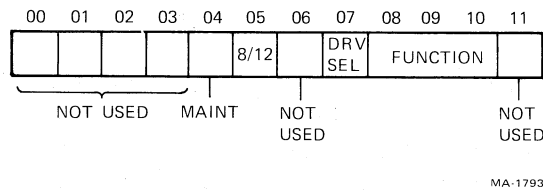

Figure 4-3 Command Register Format (RX8E)
4.1.3.1 Command Register (Figures 4-3 and 4-4) – The command is loaded into the interface register by the LCD instruction for RX8E and by a load command (LCD and XDR) for the RX28 (Paragraphs 4.1.2.1 and 4.1.2.2).